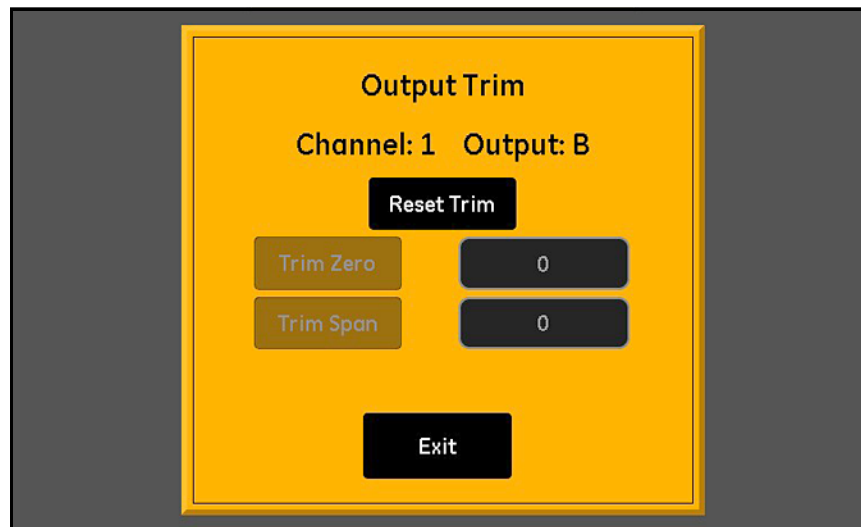

Figure 45: Output Trim Screen
3. Tap the **Channel (1-6)** and **Output (A or B)** to be trimmed, and then tap the **Trim** button to open a screen similar to *Figure 45* below.